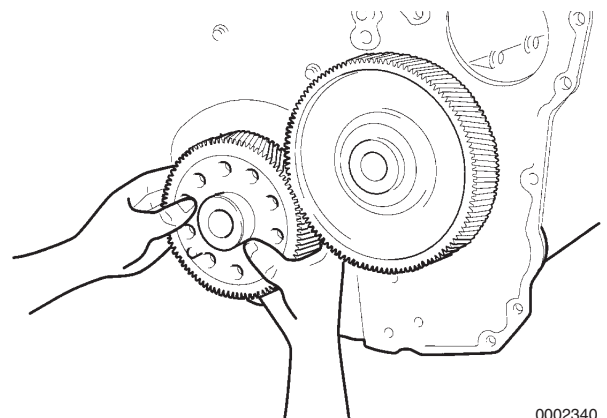

Figure 5-110
1. Install the crankshaft gear and guide pin (**Figure 5-110**).